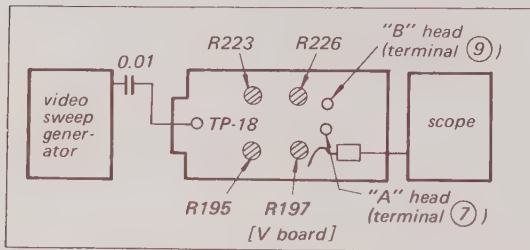

Fig. 8-34. Record frequency characteristics adjustment test setup
2. Connect a video sweep generator to terminal 3 through a 0.01 μ F capacitor. See Fig. 8-34.
3. Connect a current probe around the hot lead of the A head at the output of the V board, terminal 7. (B head at terminal (9)). Set sweep width to 6 MHz. See Fig. 8-34.